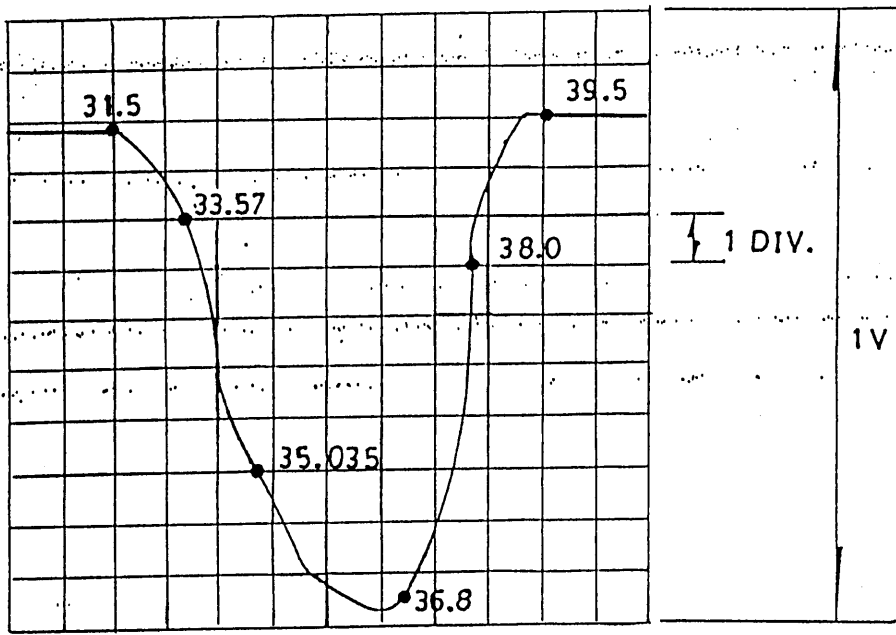

Fig. 3
- (iv) Adjust tuner convertor coil, and obtain the waveform as Fig. 3.